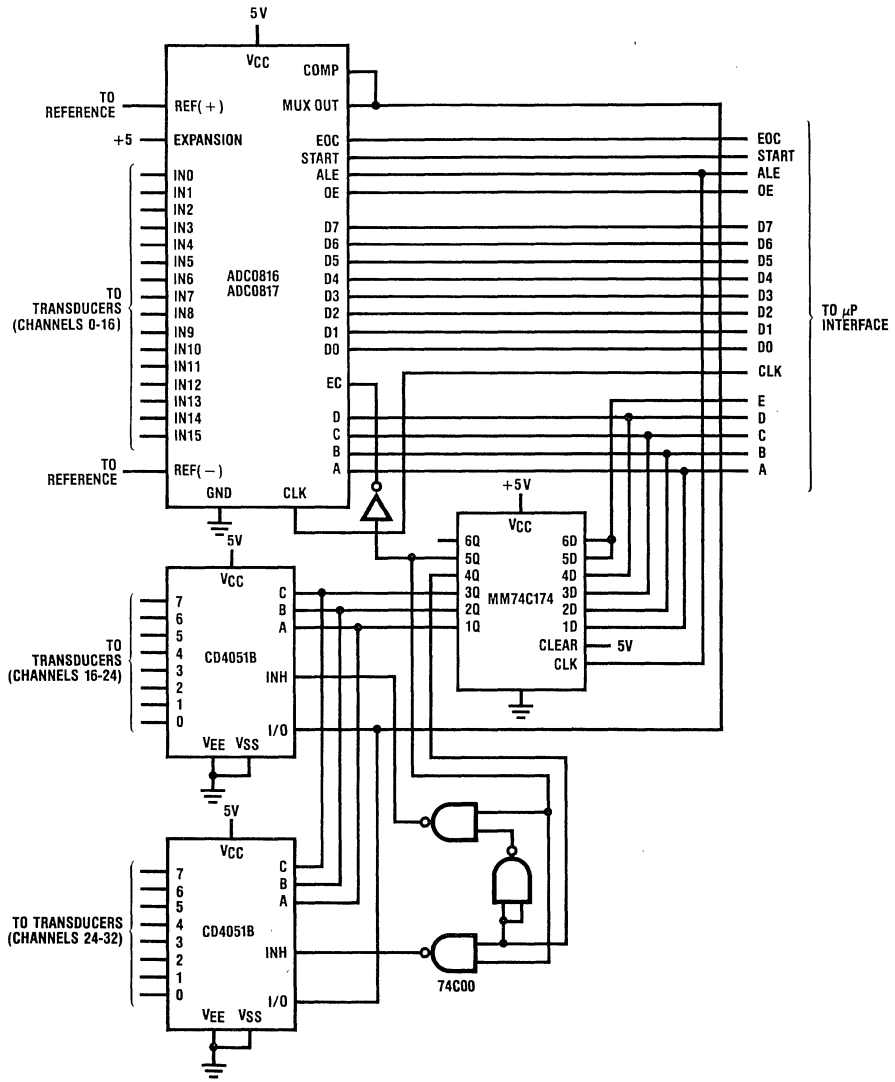
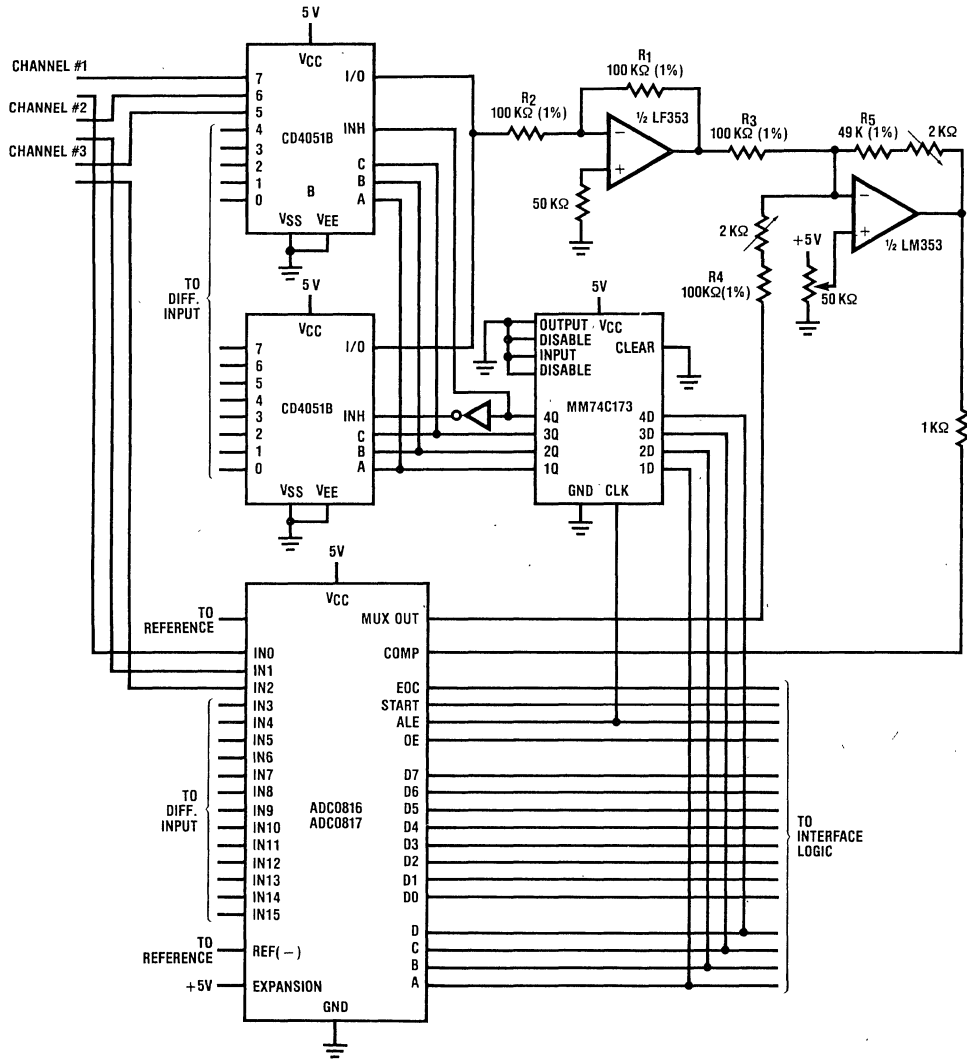

Figure 10. Simple 32 Channel A/D Converter
Figure 12. Differential 16 Channel A/D Converter
The ADC0816/ADC0817 have an expansion control (EC) pin which is actually a multiplexer enable. When this signal is low, all the switches are inhibited so that another signal can be applied to the comparator input. Additional channels can be implemented very simply, as shown in Figure 10. This design has expanded the number of channels from 16 to 32. To address the channels, 5 address lines are required. The lower 4 bits are directly applied to the A/D's A, B, C, and D inputs. All 5 bits are also applied to an MM74C174 Hex "D" flip-flop which is used as an address latch for the two CD4051's. The 1Q, 2Q, and 3Q outputs of the MM74C174 feed the CD4051 address inputs 4Q and 5Q are gated to form enable signals for each CD4051. 5Q is also routed to the EC input to properly enable the A/D's multiplexer.
A 16 channel differential system can be realized by modifying *Figure 10*. This is accomplished by changing the CD4051's addressing and adding a differential amplifier in between the multiplexer outputs and the comparator input. The select logic for the CD4051's has been modified to enable the switches to be selected in parallel with the ADC0816/ADC0817. The outputs of the three multiplexers are connected to a differential amplifier, composed of 2 inverting amplifiers with gain and offset trimmers. A dual op amp configuration of inverting amplifiers can more easily be trimmed and has less stringent feed-back resistor matching requirements, as compared to a single op amp design. The transfer equation for the dual op amp amplifier shown in *Figure 12* is: